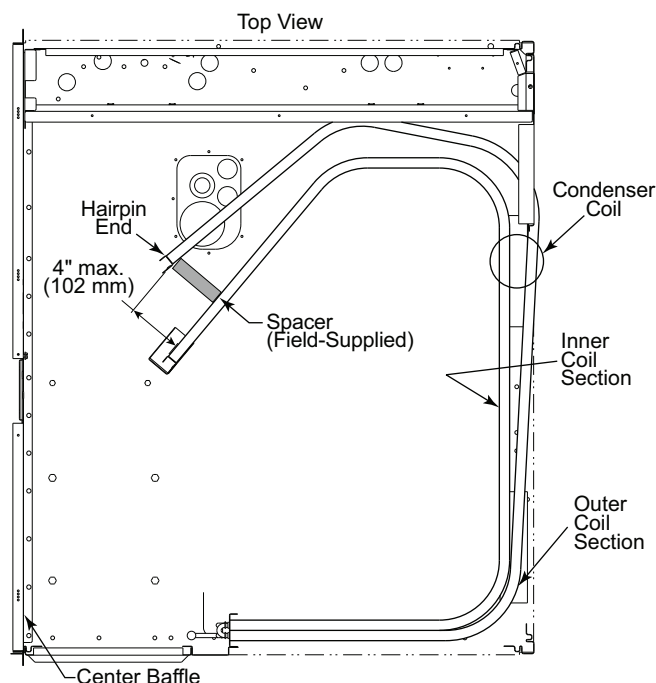

Fig. 20 — Separating Coil Sections
8. Insert a spacer (field-supplied) between the tube sheets to hold the coils apart. See Fig. 20.